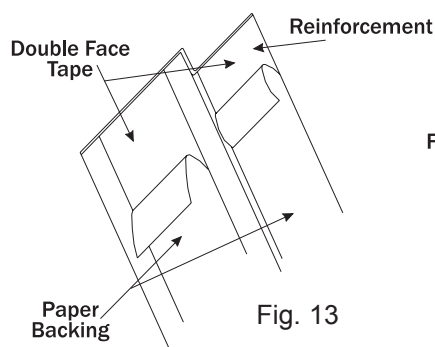
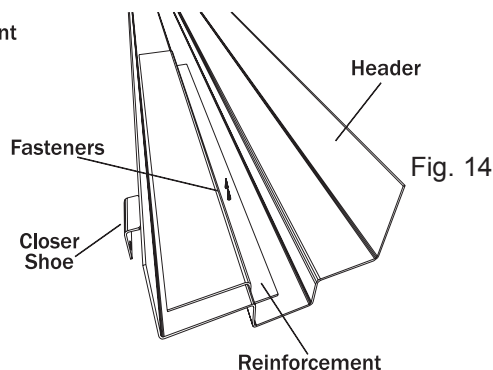

Fig. 13
Fig. 14
- 2 Expose double face tape by removing paper backing on two strips of tape (Fig. 13) and press into position to secure the sleeve to the header (Fig. 14).